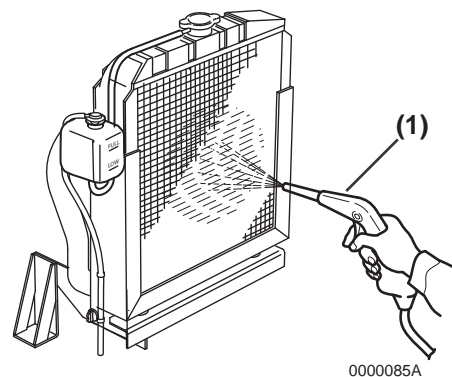

Figure 5-9
Note that a typical radiator is shown in **Figure 5-9** for illustrative purposes only.
- Blow off dirt and dust from fins and radiator with 28 psi (0.19 MPa; 2 kgf/cm²) or less of compressed air (**Figure 5-9, (1)**). Be careful not to damage the fins with the compressed air.